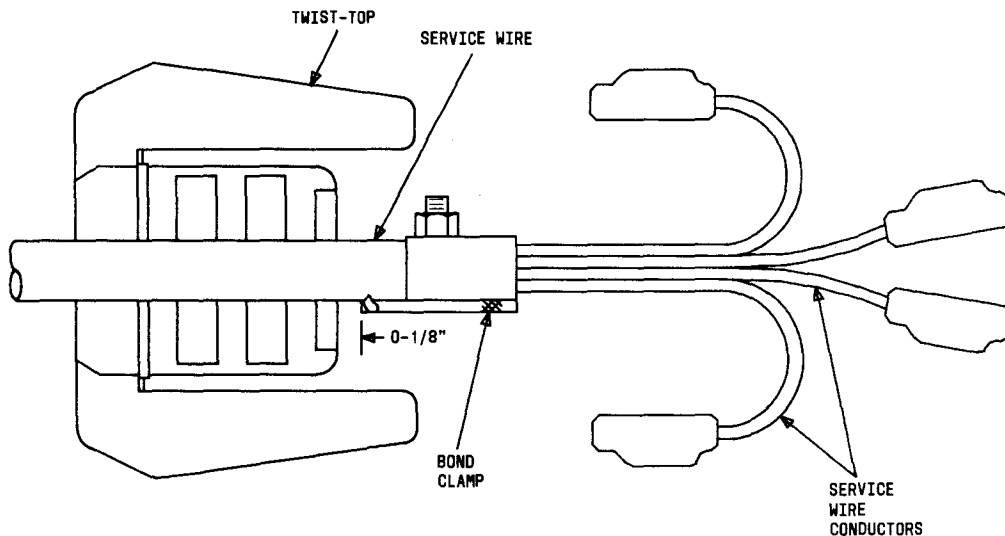

Fig. 4—Inserted Service Wires in Twist Top
3.05 Insert service wires in the grooves of the twist-top and slide the top toward the bond clamp (Fig. 4).